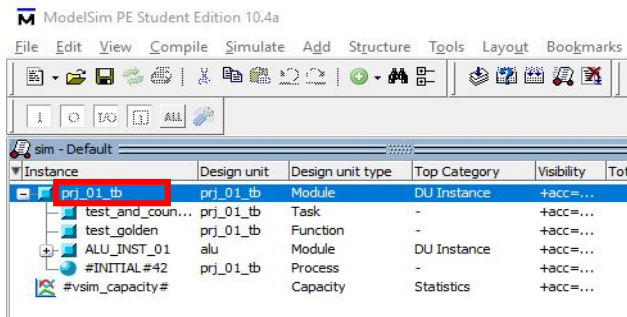

Figure 2.8 Sim Window
- 6) "Sim - Default" window will appear as in Figure 2.8 and double click the 'proj_01_tb'.